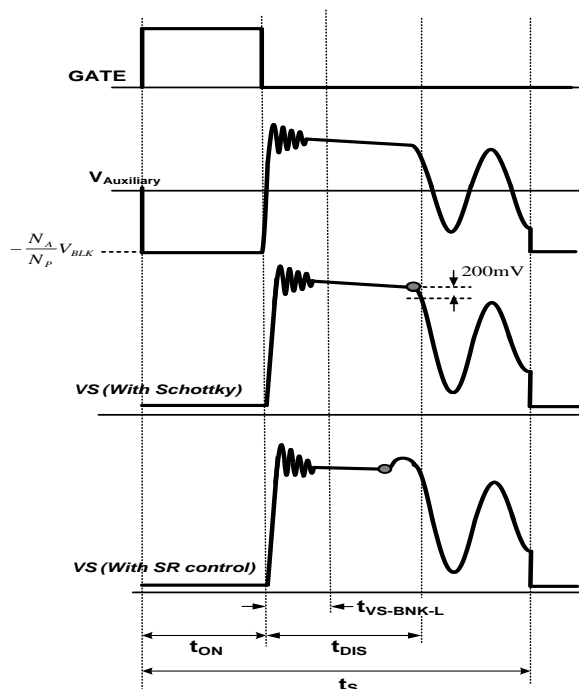

Figure 26. VS sampling with Diode or Synchronous Rectifier
VS voltage which is reflected auxiliary winding and proportional to output voltage. Therefore, It is possible to regulate output voltage by sensing VS voltage. Figure 26 shown VS sampling waveform with secondary rectifier that using Schottky diode or Synchronous Rectifier (SR).
In order to regulate output voltage in accurately range, FAN105B build-in VS sampling methodology for signal like Figure 26 showed, FAN105B samples and hold VS voltage
A leading edge blanking time ( $t_{VS-BNK-H/L}$ ) start from primary switch turned off. Most of TA design have VS oscillation after primary switch turned off, that is caused by the resonance of leakage inductance and parasitic capacitance at transformer. In order to avoid VS sampling procedure get impacted by that ringing, the oscillation should be settle before  $t_{VS-BNK-L}$  ended as Figure 26 showed.  $t_{DIS}$  is secondary rectifier current discharging time which recommend better design is longer than  $t_{VS-BNK-H}$  during minimum on time controlling.  $t_{DIS}$  is predictable by following formula: